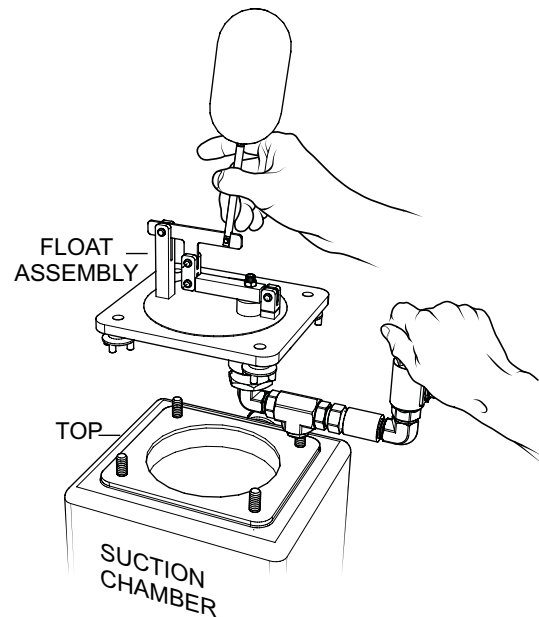

Figure 45. Float Assembly Removal
2. Carefully remove the float assembly, and place it on top of the suction chamber, as shown in Figure 45.